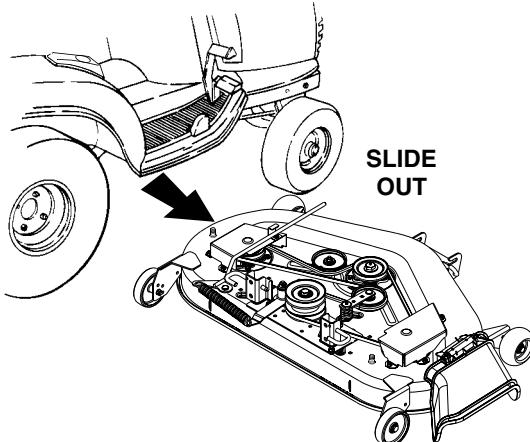

Figure 41
- With the tractor implement lift handle raised to its highest setting, slide the deck to the right and out from under the tractor (See Figure 41).